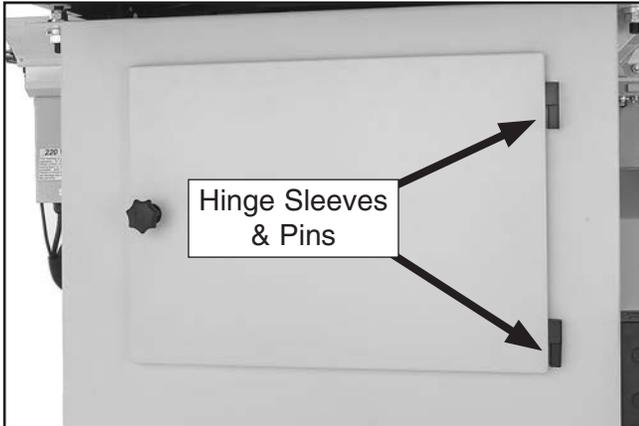

Figure 22. Cabinet door attached on hinges.
- Attach the cabinet door by sliding hinge sleeves over pins of already attached hinge (see **Figure 22**).